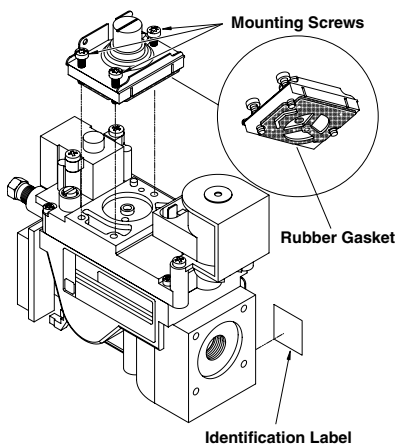

Figure 8 - Installing Pressure Regulator Assembly
2. Insure that the rubber gasket is properly positioned on the new pressure regulator assembly. Install LP pressure regulator assembly to valve using the new mounting screws supplied with the kit. Tighten screws securely (@ approximately 25 in-lbs.) (see **Figure 8**).
3. Install the identification label enclosed with the gas valve regulator to the valve body, where it can easily be seen (see **Figure 8**).